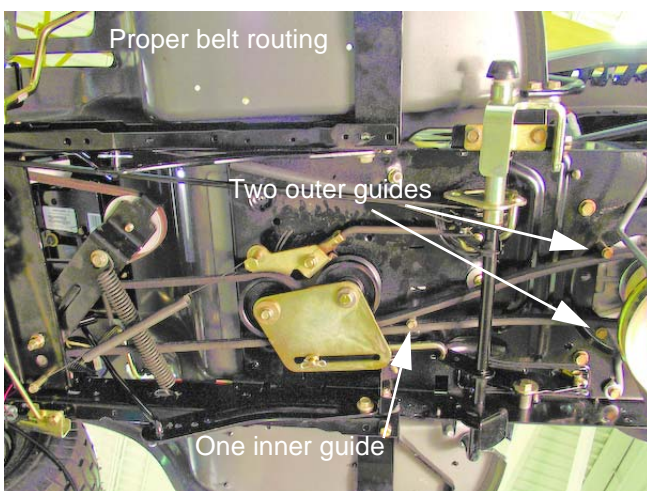

Figure 5.54
- The belt is routed inside the front spacer bolts. See Figure 5.54.